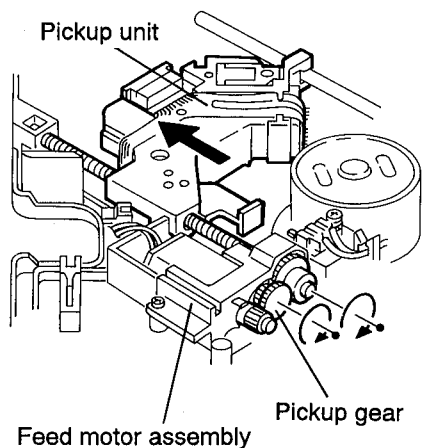

Fig. 4-20
5. While turning the pickup gear in the arrow direction as shown in Fig. 4-20, shift the entire pickup unit.